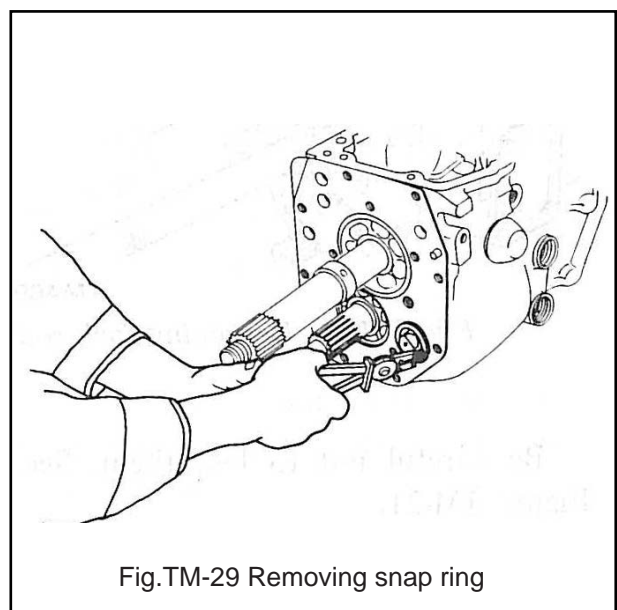

Fig.TM-29 Removing snap ring
6.Remove snap ring at the end of reverse idler shaft. See Figure TM-29.